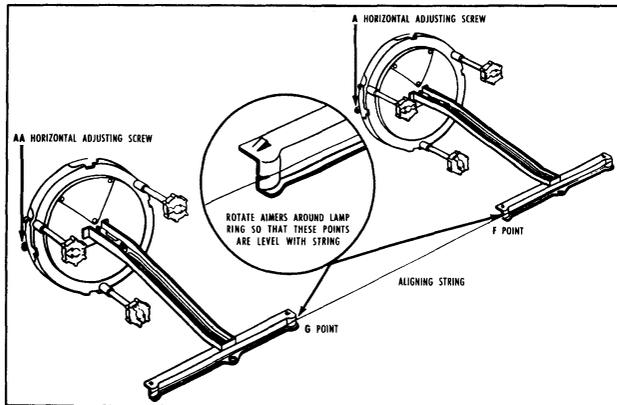

Fig. 13-58 Horizontal Aim
3. Fasten spring-loaded string to R.H. aimer arm. Rotate aimers until string is lined up with points "A" & "B". (See Fig. 13-58)
a. Loosen left headlamp horizontal adjusting screw "A", then tighten until string just touches point "F". (See Fig. 13-58)
Figures 13-58 and 13-59 illustrate the correct aiming for the upper beam. No further adjustment is needed for the traffic (lower) beam.